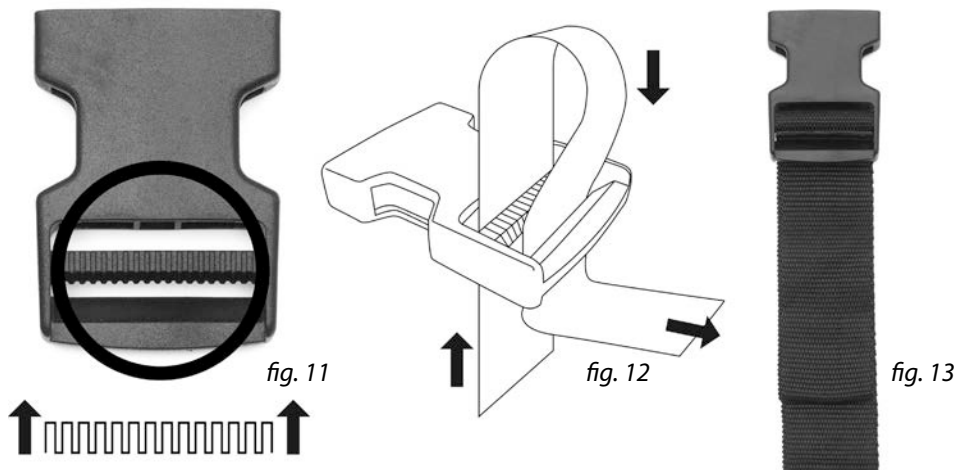

fig. 6
5. Take the longer strap and remove the female buckle from the end (see fig. 6)